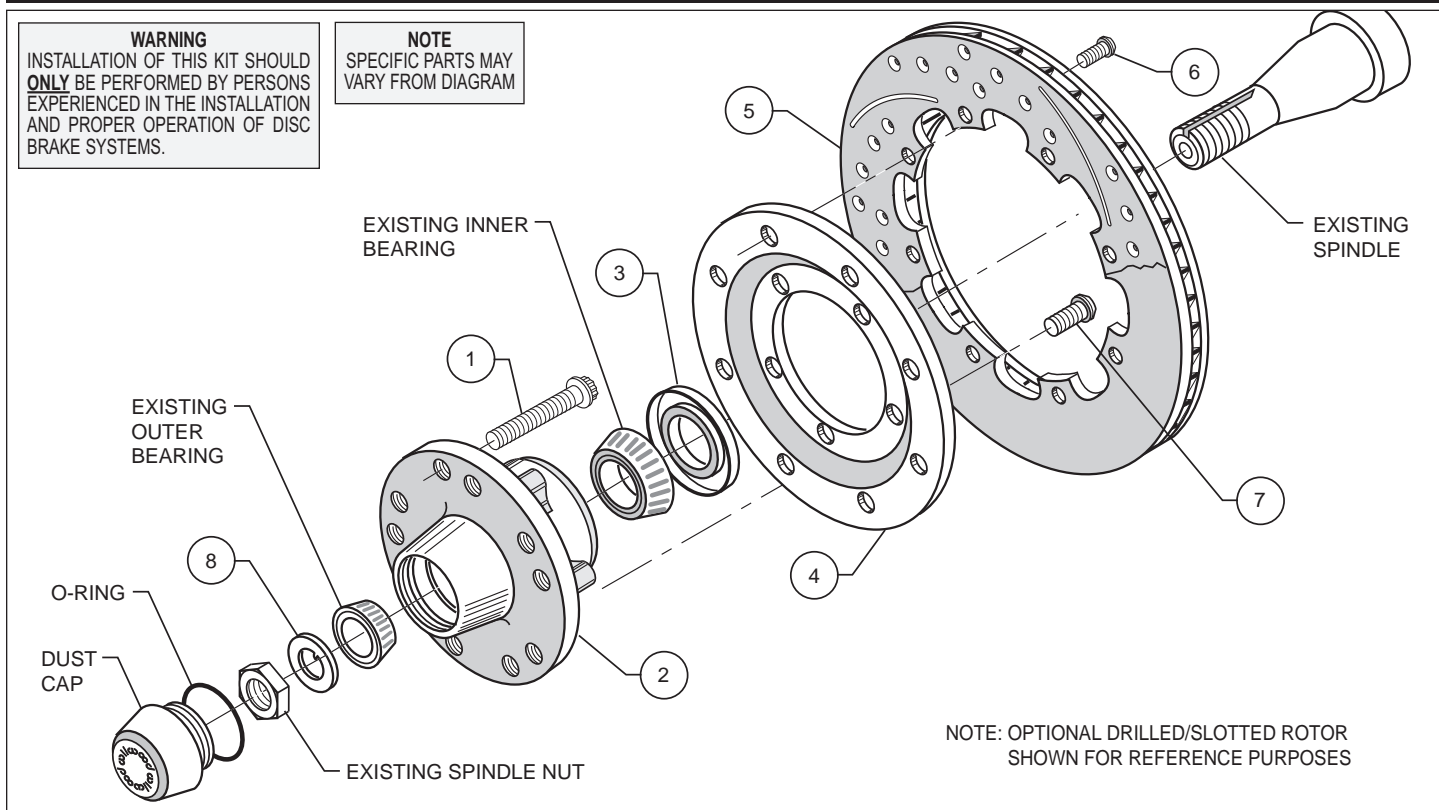

Figure 1. Typical Installation Configuration
- Install wheel studs (1) into the hub (2). Torque to 77 ft-lb. **NOTE:** There are two five lug patterns in the hub (5 x 4.50 and 5 x 4.75). Make sure of the correct hole pattern for the correct wheel application before installing studs into hub.
- Pack the large inner bearing cone (use existing) with high temperature disc brake bearing grease (available from your local auto parts store) and install into the backside of the hub (2).
- Install the grease seal (3) by pressing into the backside of the hub (2).
- Orient the rotor (5) and the rotor adapter (4) as shown in Figure 1. Attach the rotor to the adapter using bolts (6). Using an alternating sequence, apply red *Loctite*® 271 to the threads, and torque to 25 ft-lb.
- Mount the adapter/rotor assembly (4/5) to the hub (2) using bolts (7), as shown in Figure 1. Using an alternating sequence, apply red *Loctite*® 271 to the threads, and torque to 45 ft-lb.
- Pack the small outer bearing cone (use existing) with high temperature disc brake bearing grease and install into front of hub (2). Slide the hub/rotor assembly (2 and 5) with outer bearing cone onto the spindle. Secure using spindle washer (8), spindle nut and nut locking device (reuse existing). Adjust bearings per Original Equipment Manufacturer (OEM) specifications.
- Install the dust cap onto the hub (2). Friction created by the o-ring on the dust cap keeps it from unscrewing. Be sure the spindle washer seats firmly against the hub face.